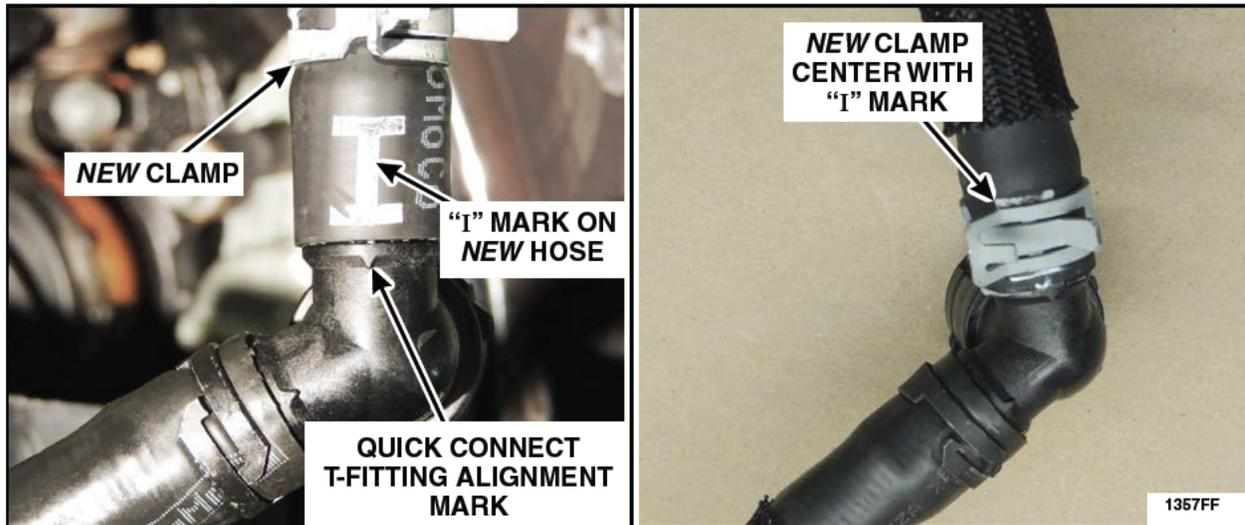

FIGURE 17
12. Position a *new* clamp onto the longer section of the *new* degas bottle hose and install the hose onto the quick connect T-fitting. Ensure the "I" mark on the *new* degas bottle hose is aligned with the alignment mark on the quick connect T-fitting. Also align the clamp center with the "I" mark. See Figure 17.